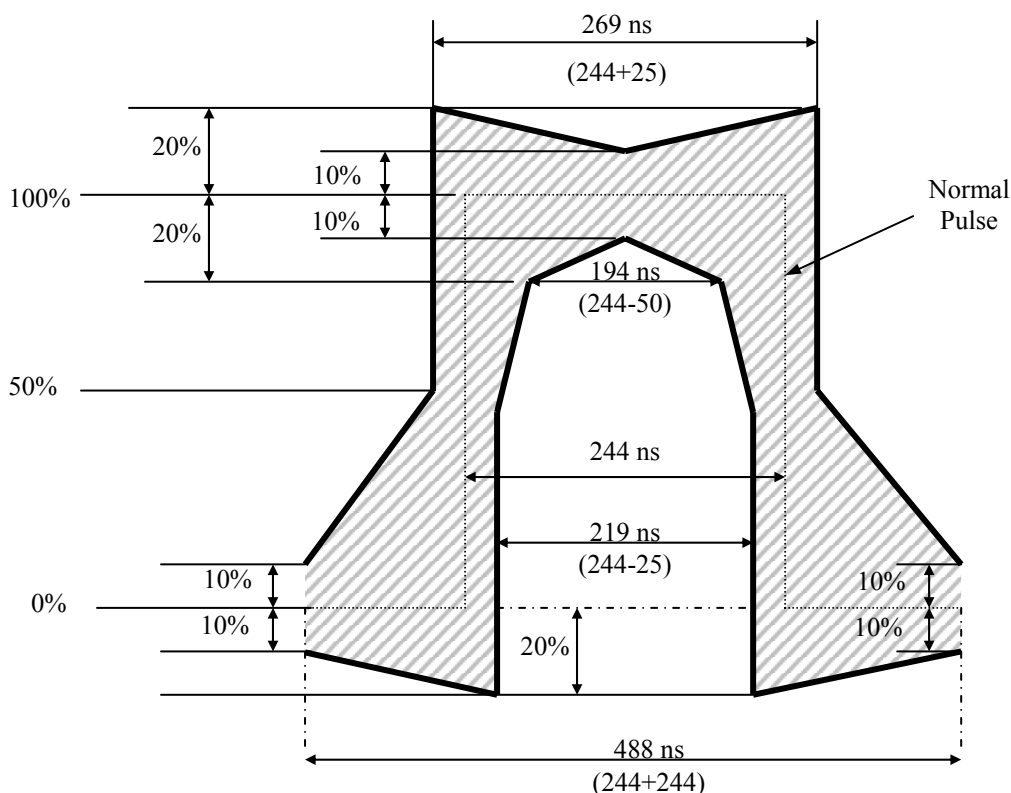

Fig. 6 Mask of the pulse at the E1 interface
- (1) Bit Rate: 2.048Mb/s±50ppm.
- (2) Line code: HDB3.
- (3) Pulse Shape: ITU-T G.703 shown as Fig. 6
- (4) Impedance:  $120\ \Omega \pm 5\%$ , symmetrical pair
- (5) Nominal pulse width: 244ns
- (6) Ratio of the amplitudes of positive and negative pulse at the center of the pulse interval: 0.95 to 1.05
- (7) Ratio of the width of positive and negative pulses at the nominal half amplitude: 0.95 to 1.05
- (8) The allowable attenuation range of an E1 input signal: 0 ~ 12 dB @1024KHz, i.e. E1 copper (0.65mm) can transmit up to 400 meters.
- (9) E1 jitter characteristics: G.742 and G.823.
- (10) Minimum return loss for E1 input: